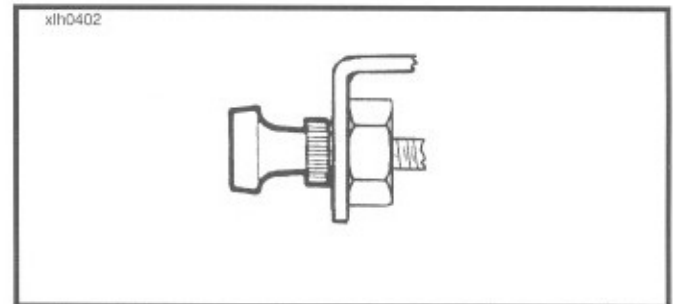

Figure 4-2. Enrichener Knob Fully In
3. See Figure 4-2. Then push enrichener knob fully in. If engine will not idle at specified rpm, pull out enrichener knob enough to allow correct idle speed. Ride another two minutes or two miles (3 km); then push enrichener knob fully in.
Open throttle 1/8-1/4 of full travel. Turn on ignition switch and operate electric starter. See Figure 4-2. DO NOT USE ENRICHENER, unless engine will not idle at specified rpm. If engine will not idle at specified rpm, pull out enrichener knob enough to allow correct idle speed. Ride two minutes or two miles (3 km); then push enrichener knob fully in.